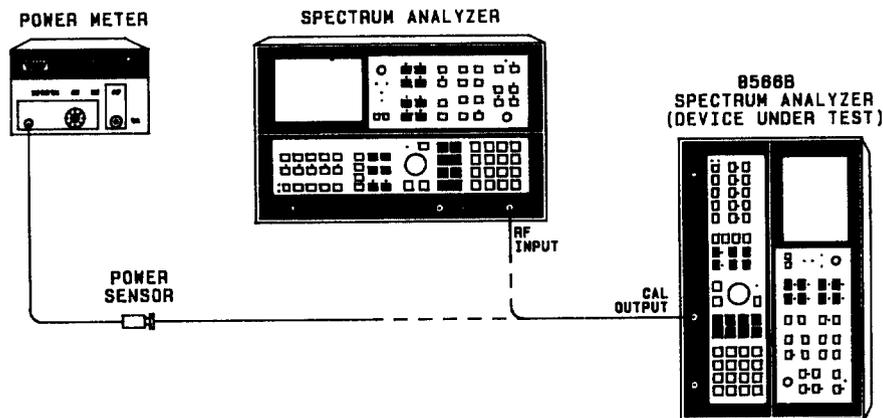
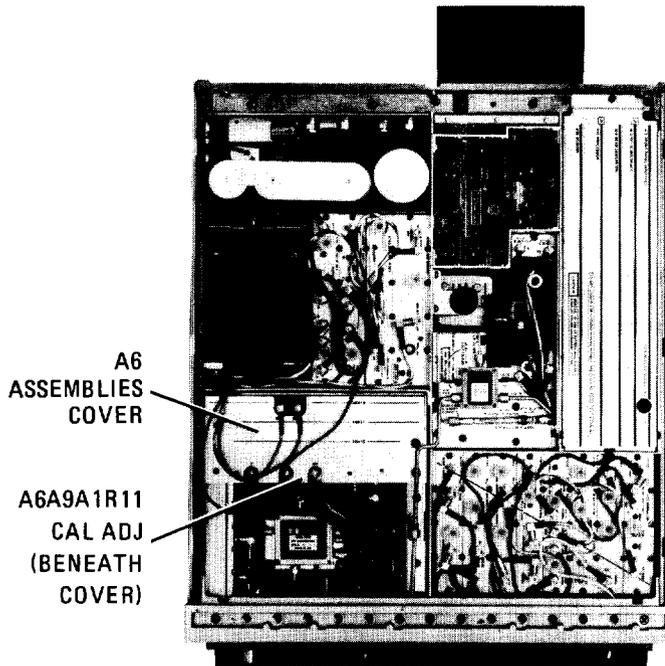

FIGURE 62. CAL OUTPUT ADJUSTMENT SETUP
FIGURE 63. LOCATION OF CAL OUTPUT ADJUSTMENT
1. Place instrument on right side as shown in Figure 62, with bottom cover removed. Remove A6 assemblies cover. Refer to Figure 63.